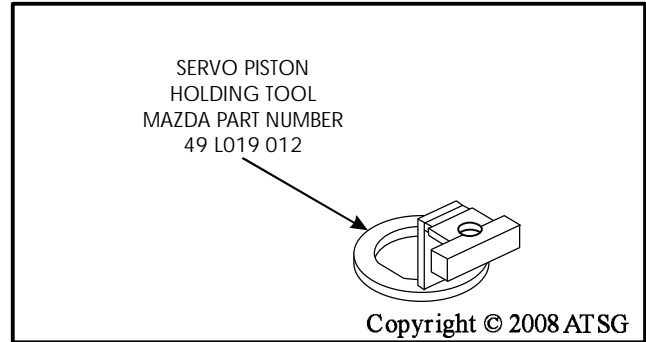

Figure 216
**Note: This is a mandatory tool to enable you to torque band adjusting screw locking nut properly (See Figure 216).**